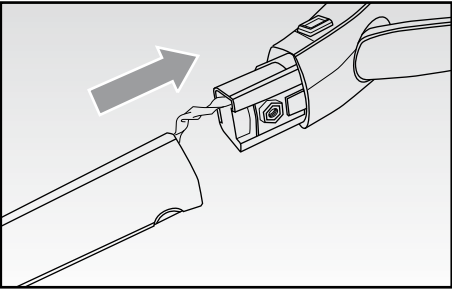

Fig. 2
- assemble the upper handle (B) to the appliance body (R), by slightly pressing it until it stops, making sure the wire is properly inserted into the appliance body (Fig. 2)